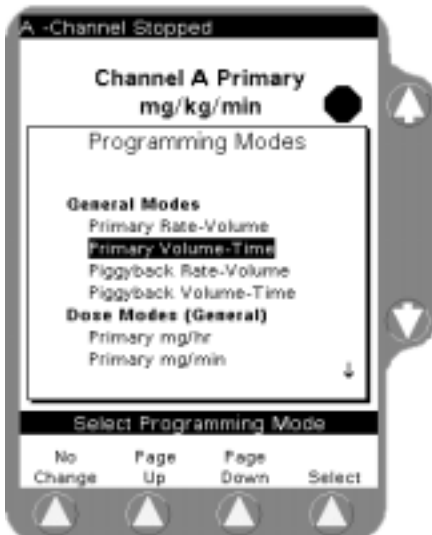

Figure 5-25 Change Mode Screen
3. From the Change Mode screen (Figure 5-25), highlight the Primary Volume-Time or Piggyback Volume-Time, then press the **Select** soft key.